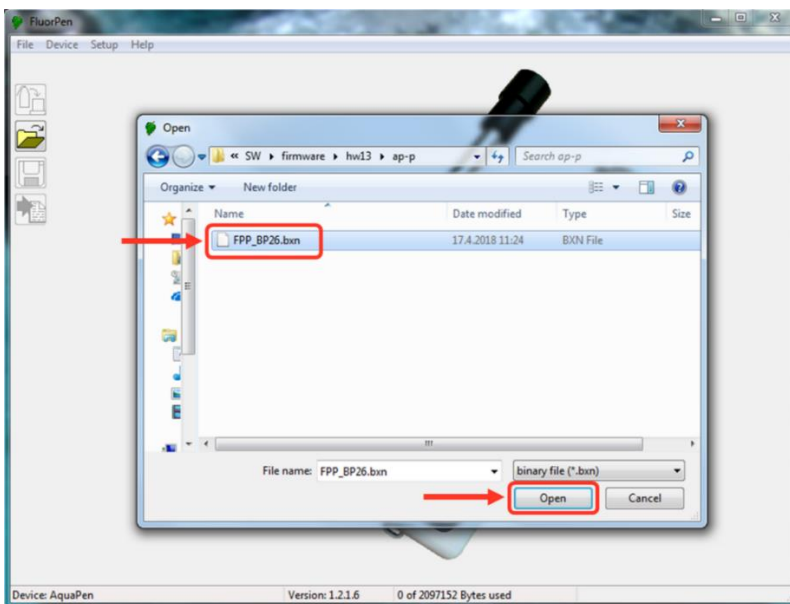

Fig. 31 Selection of the firm ware file.
3. Selecting .bxn file. Find firmware update file (a binary file with the extension .bxn provided from PSI) and select **Open** (Fig. 31).